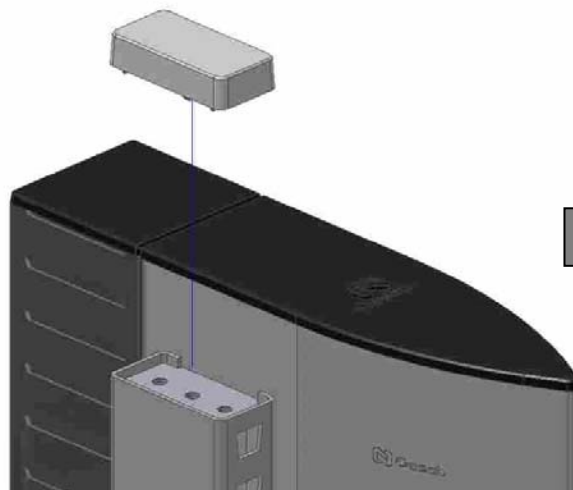

Fig 8
STEP 5 – Place the plastic covers at the tops of the **grooved bars** (Fig. 8).